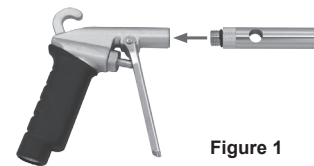

Figure 1
1. Take out the blow gun (A). Install the 3 in. nozzle (B) to the gun. (See Figure 1)